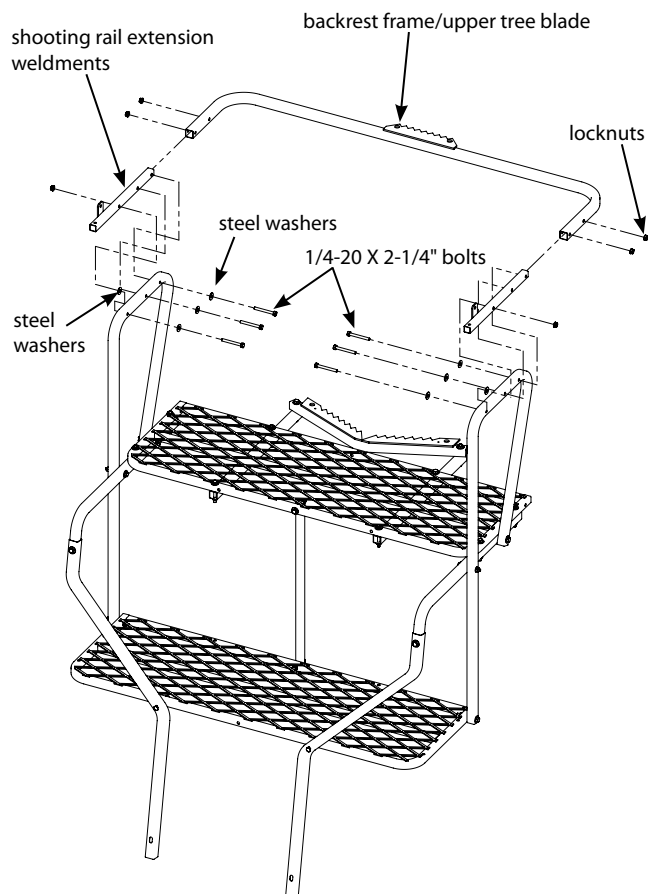
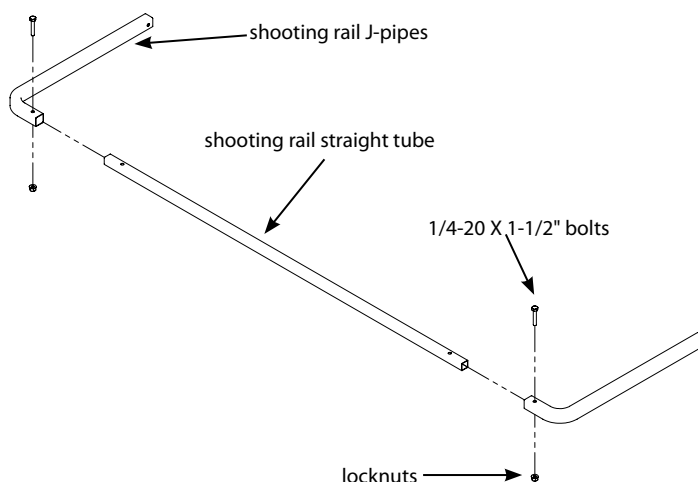

Figure 5
Figure 6
8. Insert the (2) shooting rail extension weldments (411028) into the receiving ends of the backrest frame/upper tree blade (411025). Secure all three pieces to the side loop frames using (6) provided 1/4-20 x 2-1/4" bolts, (6) locknuts and (8) steel washers. **SEE FIGURE 5.**
- NOTE: Use (1) steel washer on each side of this assembly to correctly take up the gap between the side loop frame and the shooting rail extension.**
9. Slide the (2) shooting rail J-pipes (411032) over the shooting rail straight tube (411027) and secure together using (2) provided 1/4-20 x 1-1/2" bolts and locknuts. **SEE FIGURE 6.**